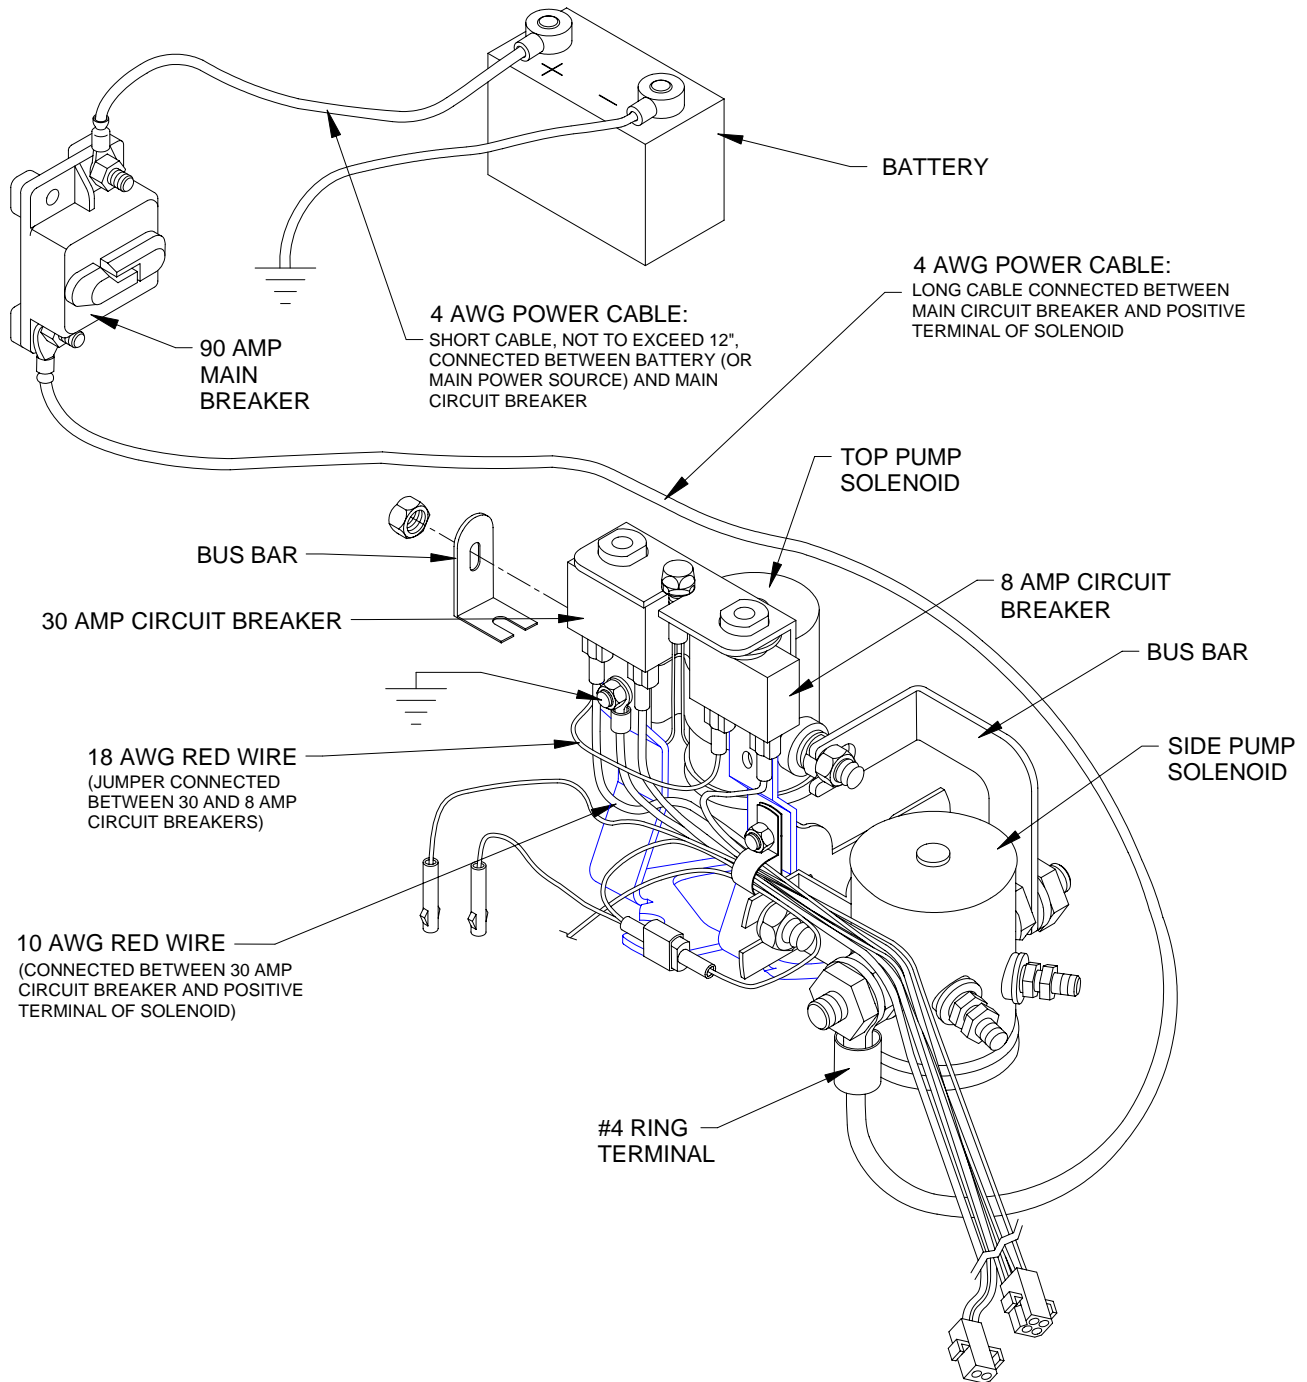

FIGURE 2-7: ELECTRICAL INSTALLATION DIAGRAM
- a. Refer to **Figures 2-7 and 2-8**. Drill a hole through vehicle floor near or under pump solenoids so power cable can reach positive stud of side solenoid (the stud on side solenoid that is not connected to top solenoid with a bus bar). Drill hole where the installed pump cover will cover it.